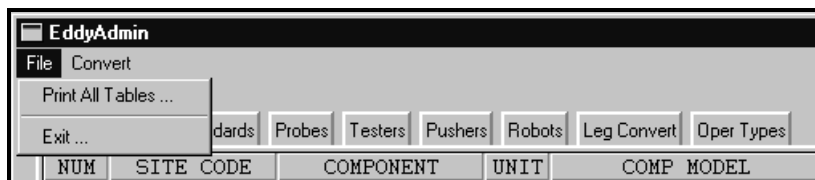

Figure 3-37. EddyAdmin Dialog - File Menu
The **EddyAdmin** dialog contains two (2) menu selections shown in Figure 3-37. To print all the tables in **EddyAdmin**, select **File > Print All Tables ...**. To quit **EddyAdmin**, select **File > Exit ...**, a message will appear asking if you are sure you wish to quit, click **Yes** to exit or **No** to keep **EddyAdmin** open. During **Exit ...**, if changes have been made to any of the tables, a message will appear for each table that was modified, asking if you wish to save the changes. Click **Yes** to save or **No** to ignore the changes for any given table.